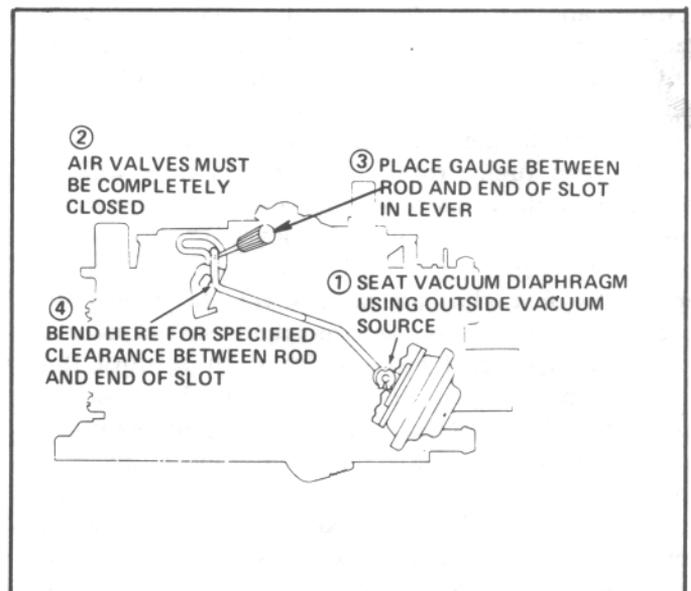

Fig. 50. Air Valve Dashpot Adjustment
- With choke diaphragm seated and air valve fully closed, measure the distance between the end of slot in vacuum break plunger lever and air valve. Measurement should be .030 (See Fig. 50).